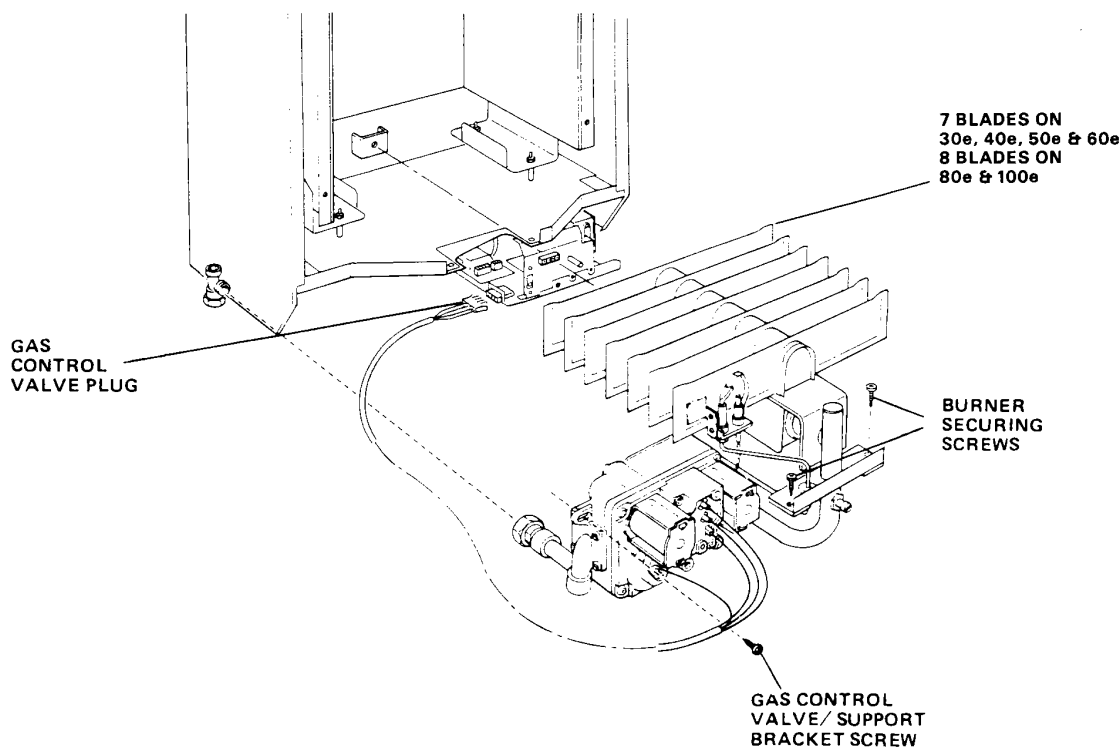

FIG. 28 BURNER AND GAS CONTROL ASSEMBLY
- H. Unplug the electrical supply leads for the gas control valve from control box. See FIG. 28.
- I. Remove the screw securing the gas control valve to its support bracket. See FIG. 28.